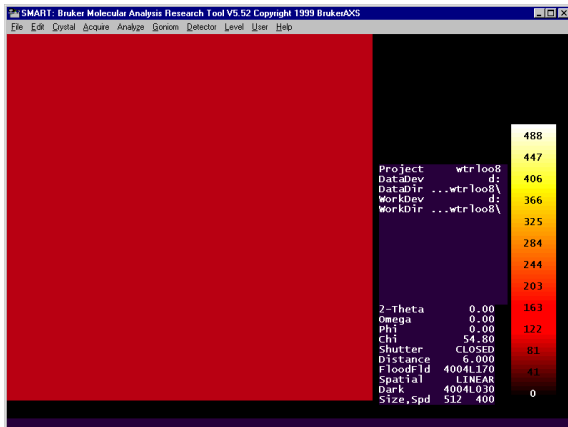

Figure 4-6. Main screen without unit cell information
1. Double-click the SMART (goniometer) icon to start the SMART program. SMART establishes communication with the D8 controller, the SMART APEX detector, and the X-ray generator. Then it displays its main screen without unit cell information (Figure 4-6).